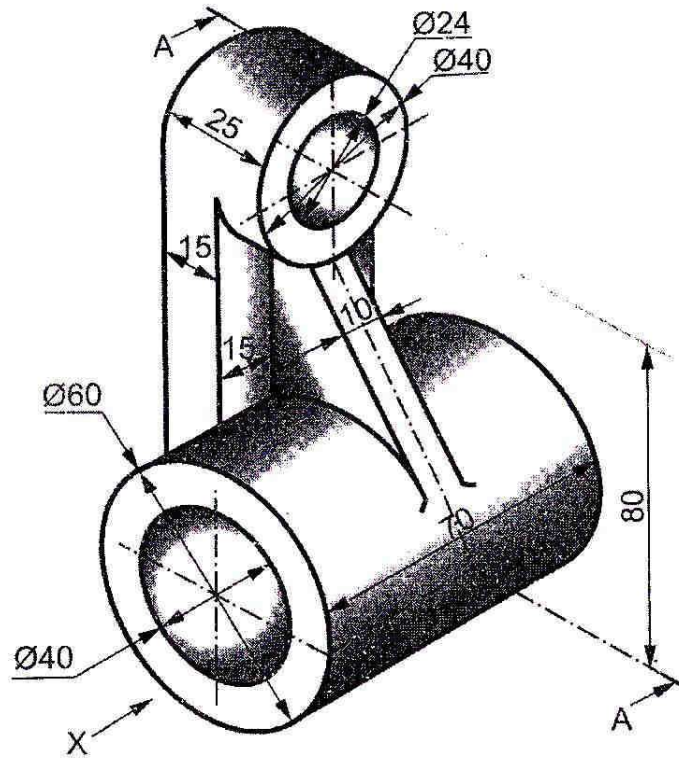

Fig. No. 1
3. Fig. No. 1 shows a pictorial view of an object. Draw the following views to full scale by using First Angle method of projection. : [8]